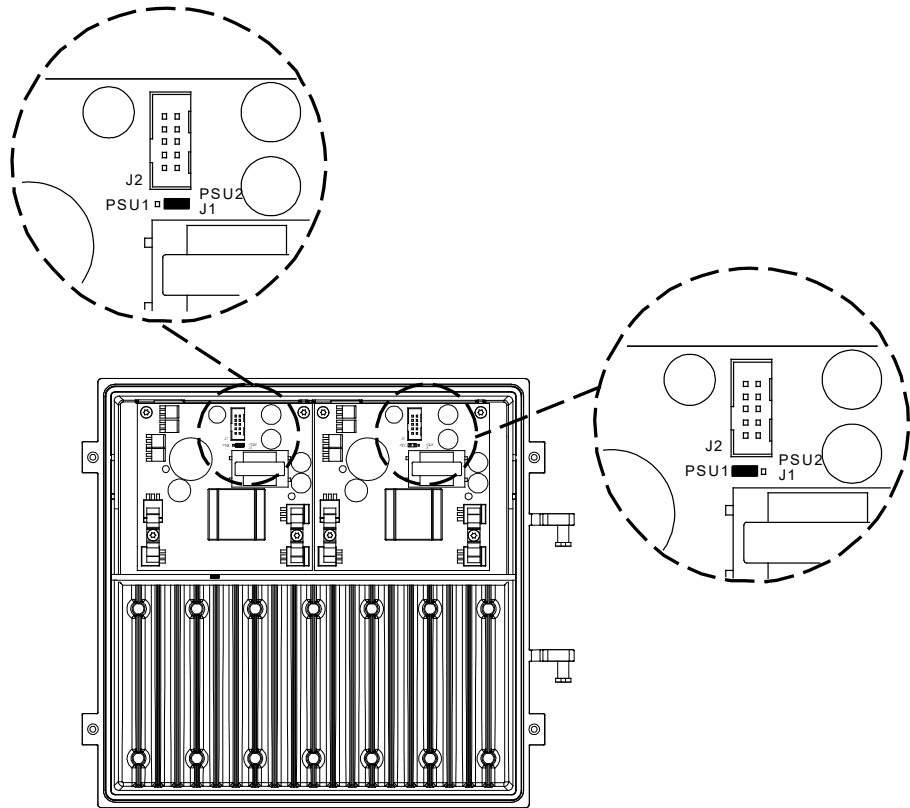

Figure 10. Diagram illustrating the AC8710 lid with both PSUs installed.
Primary and secondary power supplies are physically identical. Their functional differences are controlled by a jumper. See Figure 10 for locations of the jumper pins. The jumper must be positioned prior to installation. The primary power supply unit must be installed into the first place (closest to the hinges). Locate the 10-pin connectors and attach the supplied ribbon cable.
- jumpers is set correctly (Figure 10)